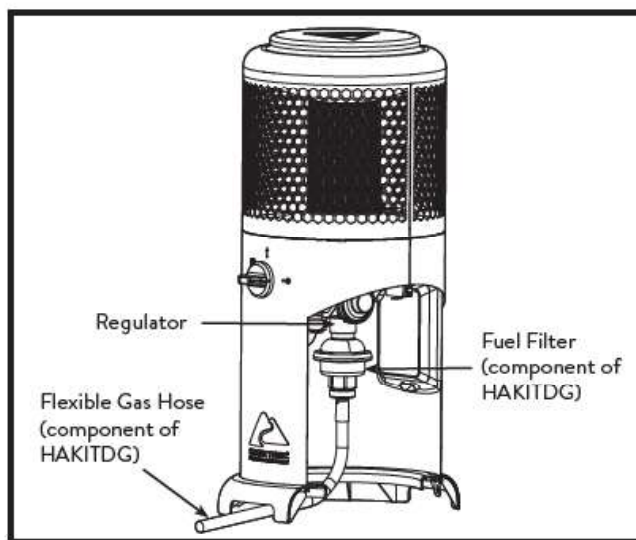

Fig. 1b - Remote Tank Installation
TANK INSTALLATION FOR 20 LB. PROPANE CYLINDER (FIG. 1B) Using hose and filter kit (HAKITDG) sold separately
- Locate regulator as shown in figure 1b.